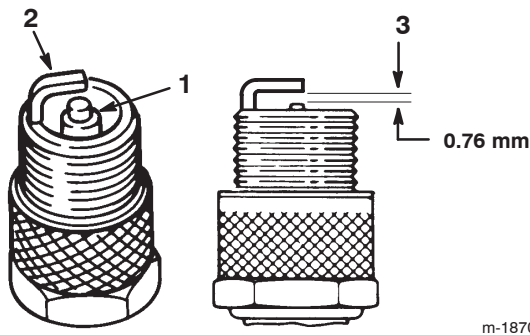

Figure 24
1. Look at the center of the spark plug (Fig. 24). If you see light brown or gray on the insulator, the engine is operating properly. A black coating on the insulator usually means that the air cleaner is dirty.
2. Check the gap between the center and side electrodes (Fig. 24) and bend the side electrode if the gap is not correct.